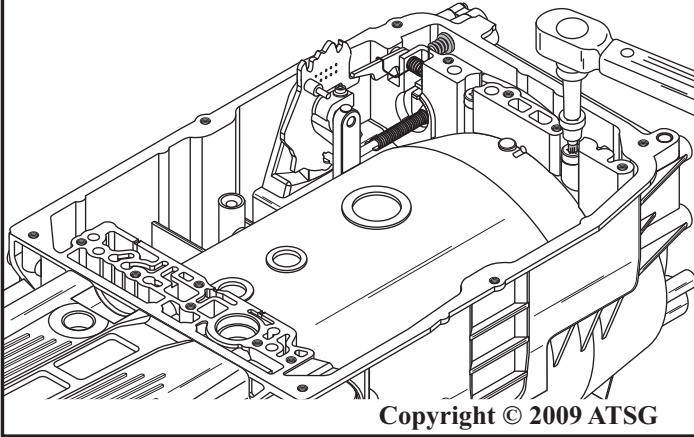

Figure 186
21. Rotate transmission in fixture so pan surface is facing up, as shown in Figure 186, and torque the B-2 clutch housing retaining bolts to 16 N·m (141 in.lb.).